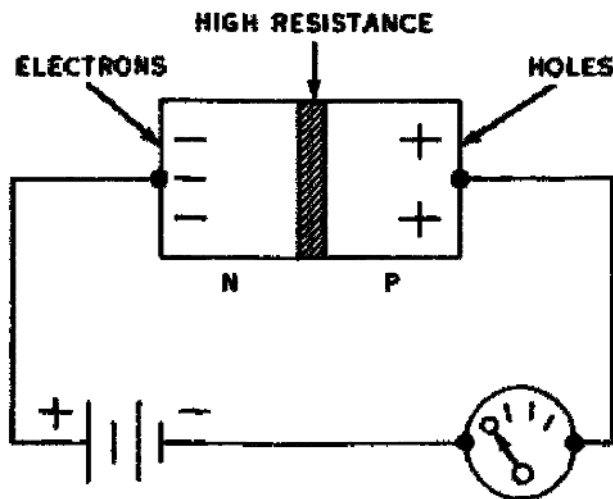

Figure 109. N-P junction with reverse bias.
13. **Reverse Bias.** Figure 109 shows an external voltage applied to an N-P junction. The positive electrode of the battery is connected to the N-type material and the negative electrode is connected to the P-type material. Since the N-type material has an excess of electrons, the positive voltage being applied to this material will
attract these electrons toward that end of the germanium crystal. The negative voltage being applied to the P-type material, which has an excess of positive current-carrying holes, will attract these holes toward the other end of the crystal and away from the junction. The ammeter in figure 109 indicates no current flow. There is no possibility of recombination at the junction because the potential hill has been built up to a higher value by the application of an external voltage. This is called reversed bias condition or a high-resistance circuit.